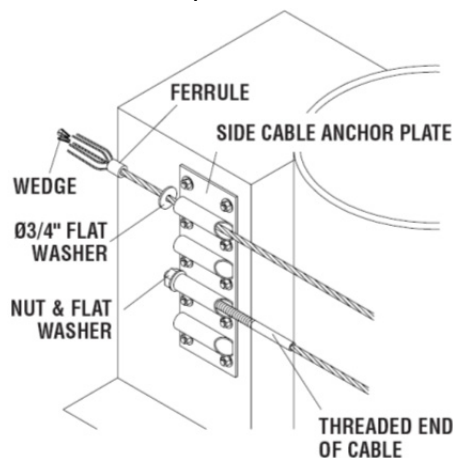

Figure 17
1. Slide the threaded end of a Restraining Cable through the third guide down and attach flat washer and nut (see Figure 17). Tighten the nut so it is flush with the end of the threaded end of cable.
2. Route the Restraining Cable through the Cable Guides on the sides of the Cylinders, around the Restraining Cable pin as shown on page 21, back through the Top Cable guides of the Cylinders, and through the Top Cable Guide of the Side Plate (see Figure 17).
3. Pull on the cut end of the cable removing all possible slack. Slide the 3/4" flat washer and the ferrule over the end of the non-threaded end of the Restraining Cable. Mark the cable 2" back from the Anchor Plate. Leaving the ferrule and washer in place, cut the cable at the mark with a grinder or hack saw. Do not use a torch to cut the cable. Unbraid the end of the cable and insert the middle strand between the two halves of the wedge. Carefully wrap the remaining 6 strands into the slots around the wedge then push into ferrule to tighten (see Figure 17 and detail A). Use a drift pin and sledge hammer to seat the ferrule into the cable receptacles.